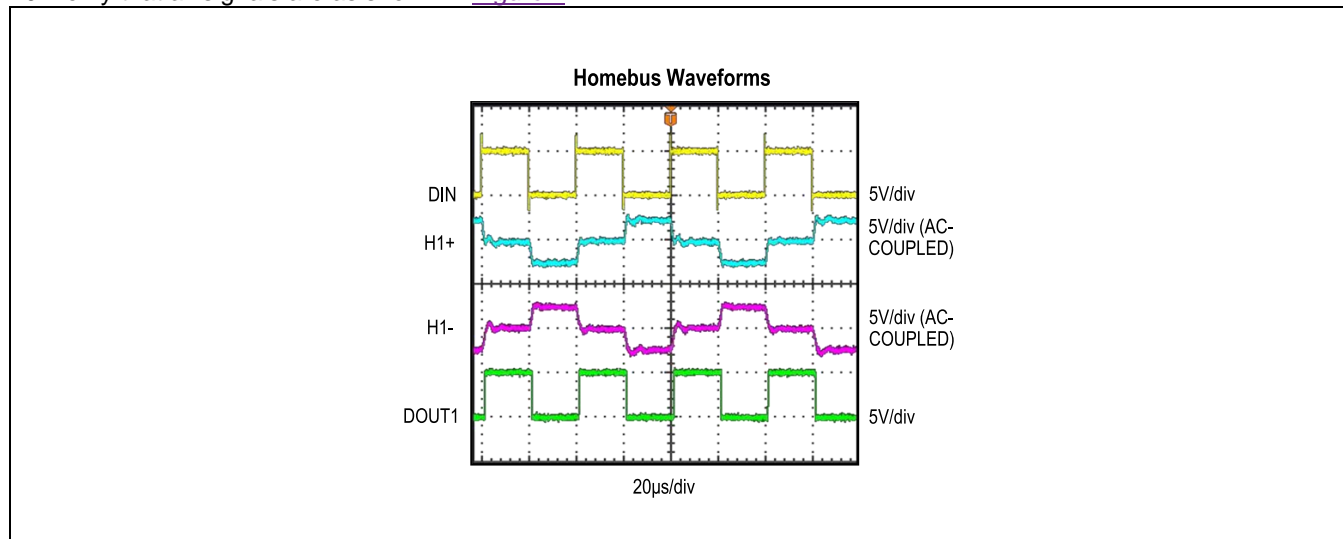

Figure 1. MAX22288 EV Kit Waveforms at 50kbps
10. Verify that all signals are as shown in Figure 1.
20. Verify that all signals are as shown in Figure 1.